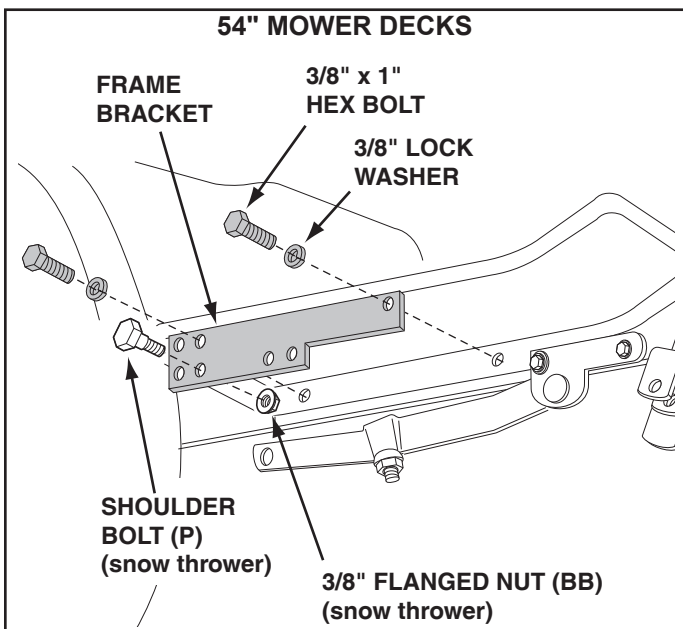

**FIGURE 12 LEFT SIDE VIEW**
**STEP 12: (SEE FIGURE 12)**
- Assemble a shoulder bolt (P) and a 3/8" flanged nut (BB) (both supplied with the snow thrower) to the frame bracket.